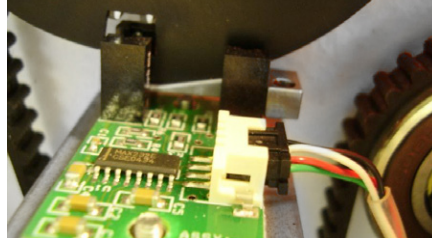

Figure 2 - Z-Home PCB Mounting Bracket
7. Align the mounting bracket of the replacement PCB using the Z Home Sensor Fixture (PN: 32980). Make sure the fixture contacts the outside face of the opto sensor on the PCB. Position the bracket until the fixture contacts the outside diameter of the Z Home Flag. See Figure 2.